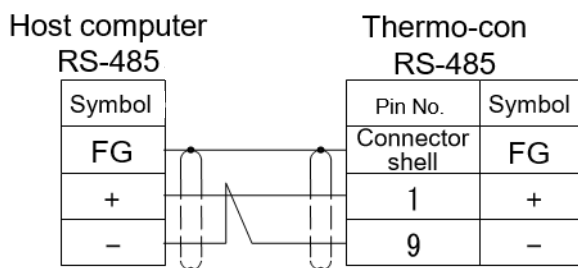

Figure1-1 Communication Connection
- Connection drawing for communication is shown in the Figures 1-1.